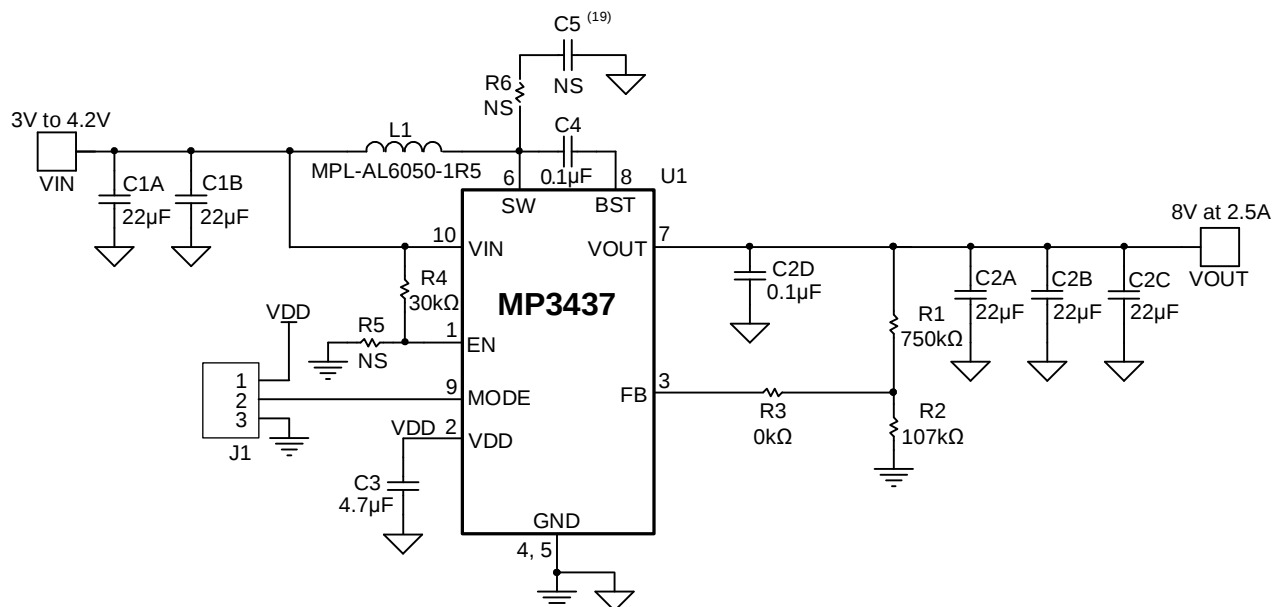
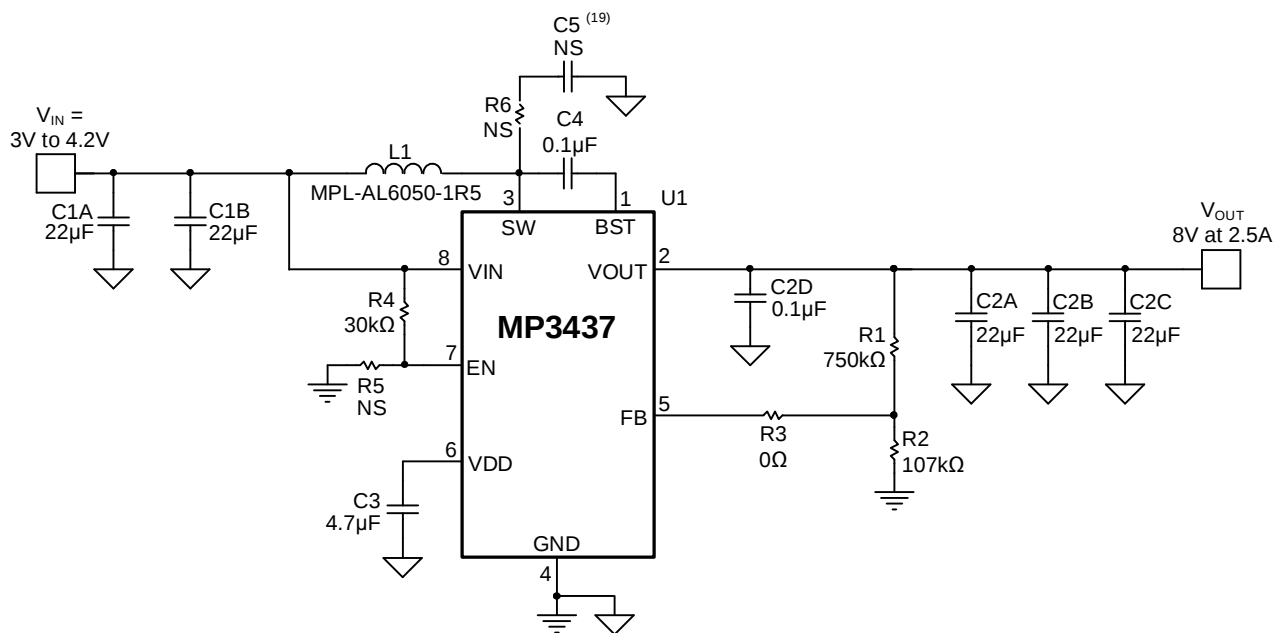

Figure 5: QFN Package Typical Application Circuit
Figure 6: TSOT Package Typical Application Circuit
Figure 5 and Figure 6 show the detailed application schematics. For the typical performance and circuit waveforms, see the Typical Performance Characteristics section on page 10. For more device applications, refer to the related evaluation board datasheet.
- ¹⁸⁾ The recommended PCB layout is based on the typical application circuits (see Figure 5 and Figure 6 on page 23).